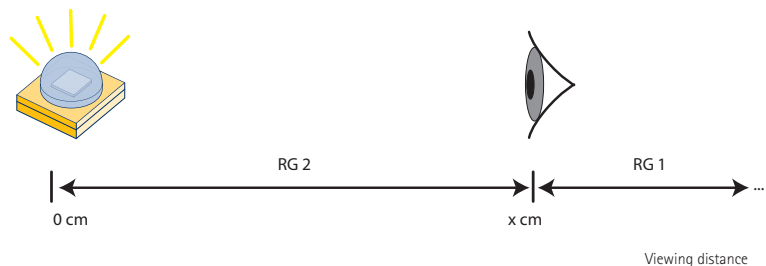

Fig. 36: Illustration of limit distances
- For the light source in Figure 36, RG 1/RG 2 applies with a limit distance x cm, which means that the light source belongs to RG 2 for viewing distances under x cm.